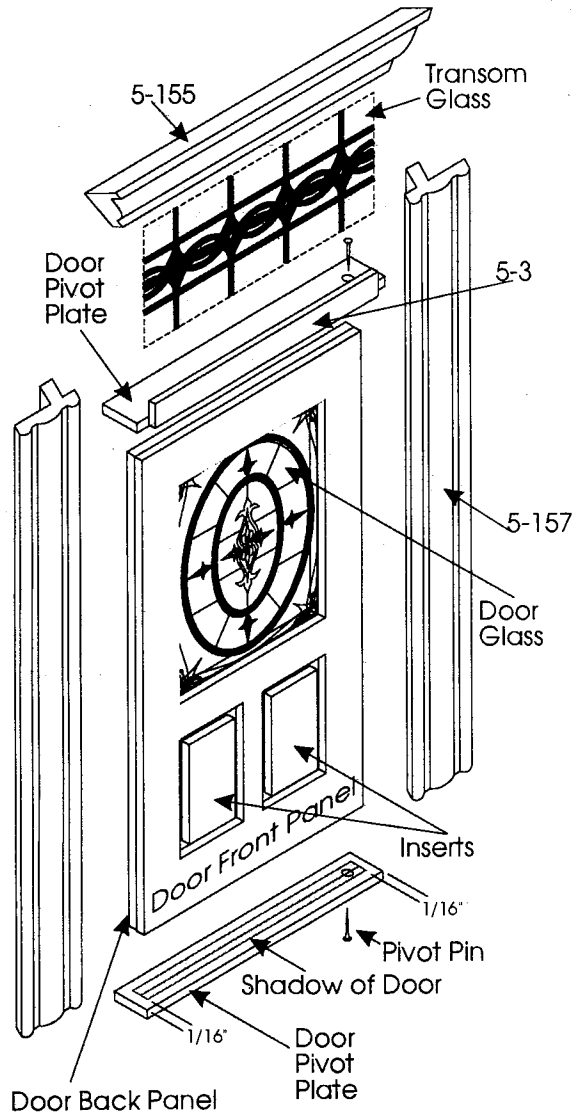

Figure 23
3. Assemble door as shown in Figure 23.